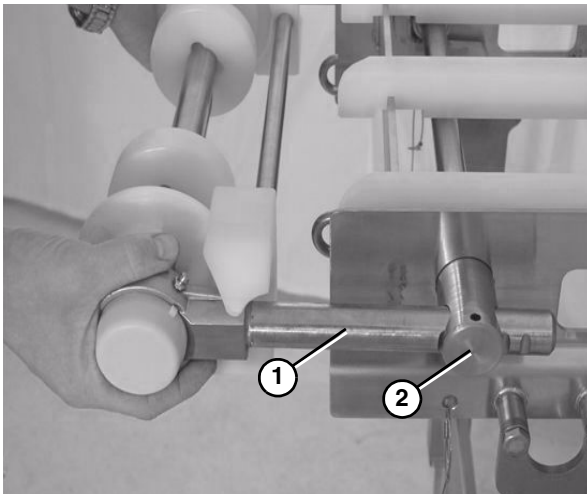

Figure 68
2. Slide the idler tail assembly (**Figure 68, item 1**) out of the take up blocks (**Figure 68, item 2**).